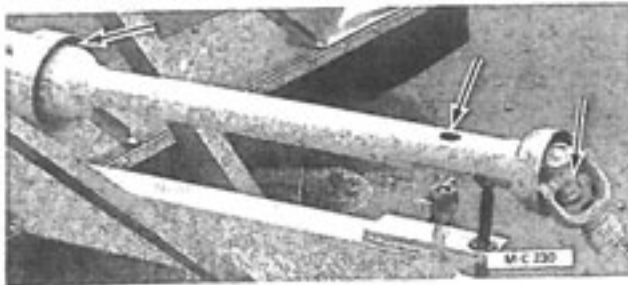

Figure 17
1. Power take-off shaft universal joints. One fitting in each yoke. One fitting in the telescoping spline shaft. See Figure 17.